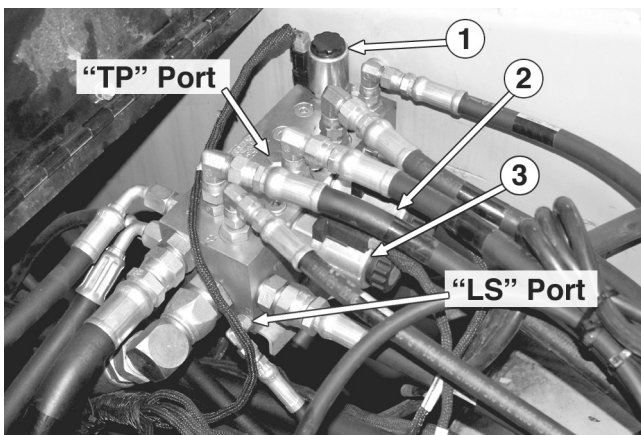

Figure 25. Conveyor/Auger/Spreadroll Manifold
1) Install a 1000 psi gage, with a shutoff valve in the port marked “G” on the right gate manifold located between the conveyors (Fig 25). This port is SAE 04 and requires a 9/16" wrench to remove the plug.